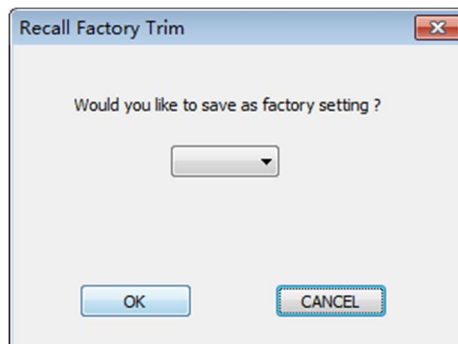

Figure 5.37 Reset to factory settings prompt
1. Click the "Calibration"->"restore factory settings"->"restore to factory settings", pop up "restore to factory settings" window, as shown in Figure 5.37:错误!未找到引用源。